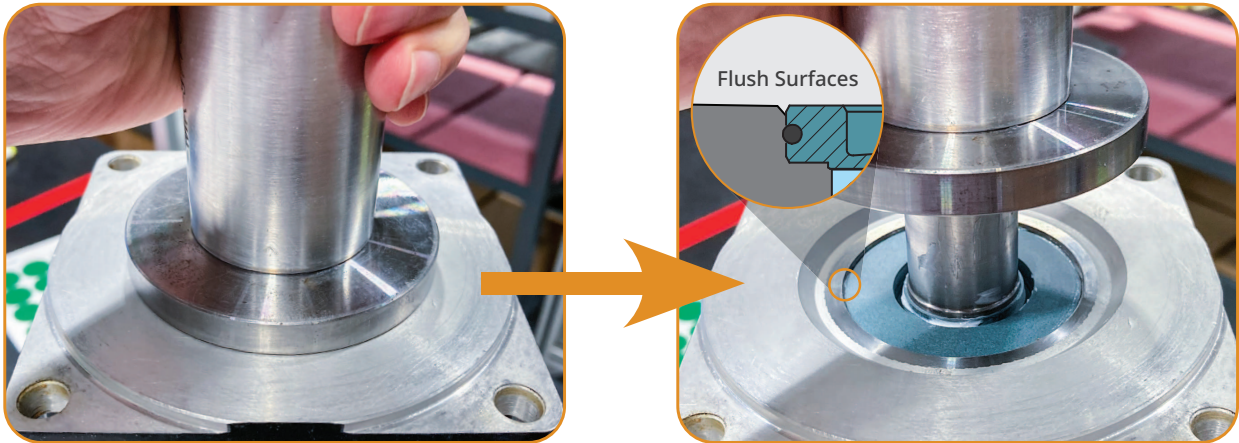

Figure 3-8: Installation tool used to press the shaft seal
13. Use your hands or the optional installation tool to press the shaft seal until it is seated flush with the servo motor pilot height with the back of the seal resting against the beveled retaining ring. (Figure 3-8)